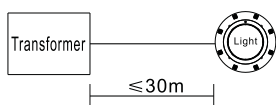

Figure 2
7. The cables connecting the lights and the transformers must be at least 6mm² and the distance between them must not exceed 30m (Figure 2); otherwise the lights will not function properly.